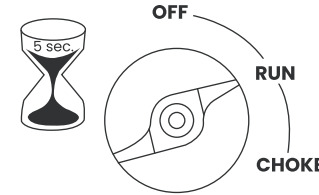

Fig.10
- 3 After the engine starts and runs smoothly turn the engine/fuel switch to the " RUN " position (see Fig.10).